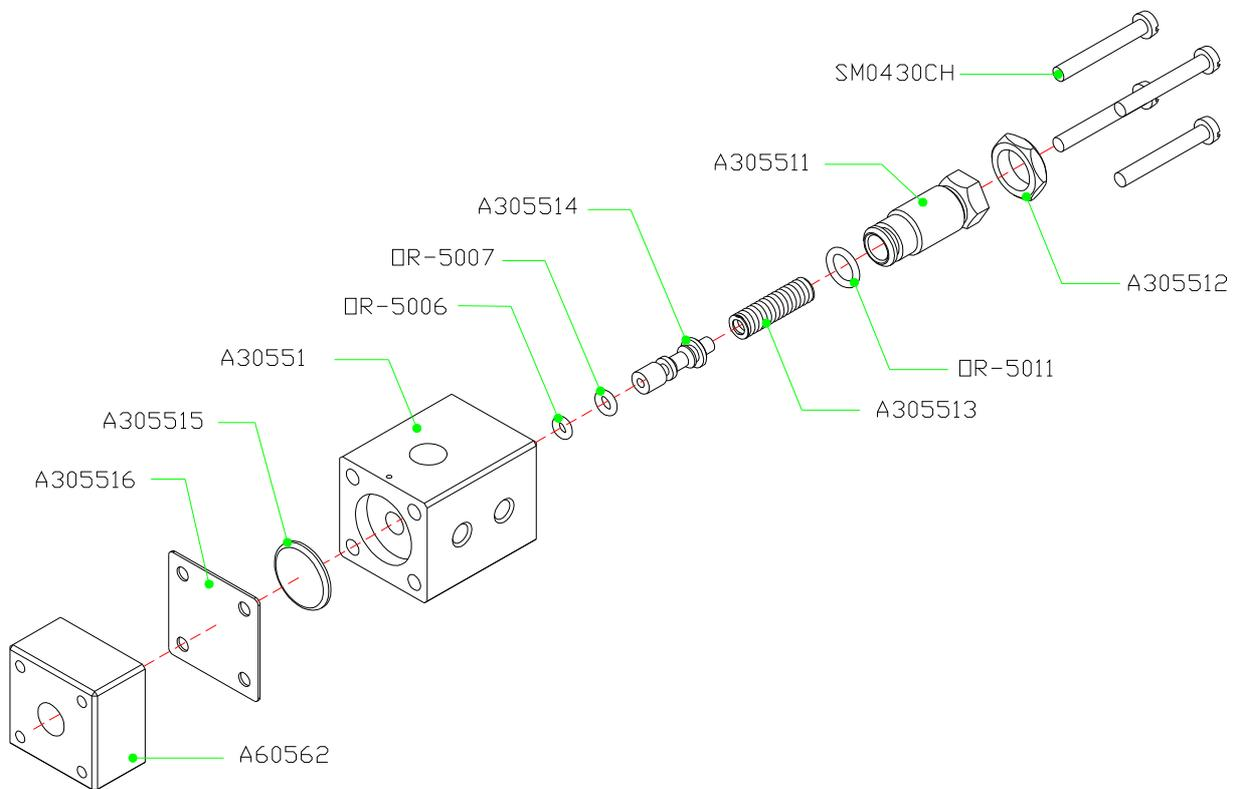

Figure 17: Components to replace in A6056 Ventilator Cut Off
1. To service the A6056 ventilator cut off we must follow Figure 17.